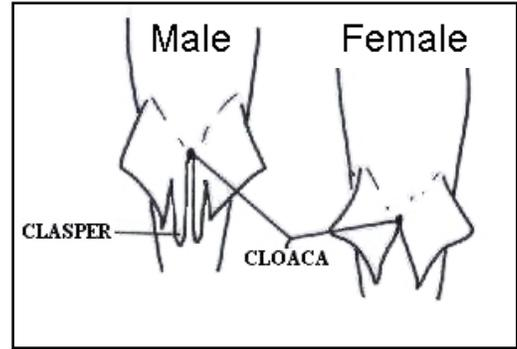
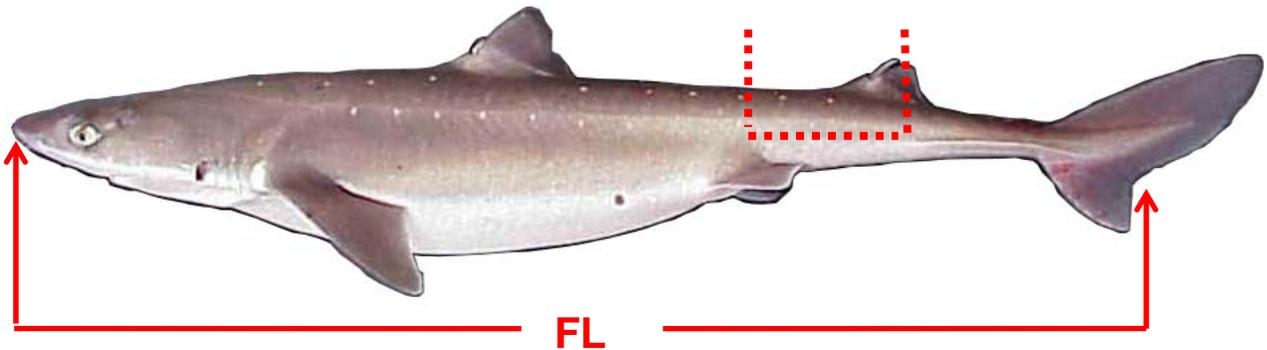

Figure 12 Ventral surface of sharks
Figure 13 Spiny dogfish fork length and age structure collection
To determine the sex of a shark, look for the presence of claspers around the cloaca. Male sharks have claspers, females do not (see Figure 12). For spiny dogfish, measure the fork length (FL) from tip of the snout to the fork in the tail (see Figure 13).
For spiny dogfish spine and vertebrae collection, the two structures can be removed together. Starting with a vertical cut behind the second dorsal spine, cut down through the vertebrae. Then cut horizontally towards the head for about 10 cm keeping the blade ventral to the vertebrae. Make another vertical cut about 10 cm forward of the spine to remove the spine and vertebrae as one piece. The vertebrae must be intact so take care not to nick it while trimming excess tissue (see Figure 13). Place the spine and vertebrae in a barcode-labeled bag, and freeze. Record the barcode number, sex, fork length and weight on your deck sheet and enter the data into ATLAS as specimen code 5 (vertebrae). Store the dogfish specimens all together in a clearly labeled bag in the freezer, to ensure that they all return to debriefing with you.